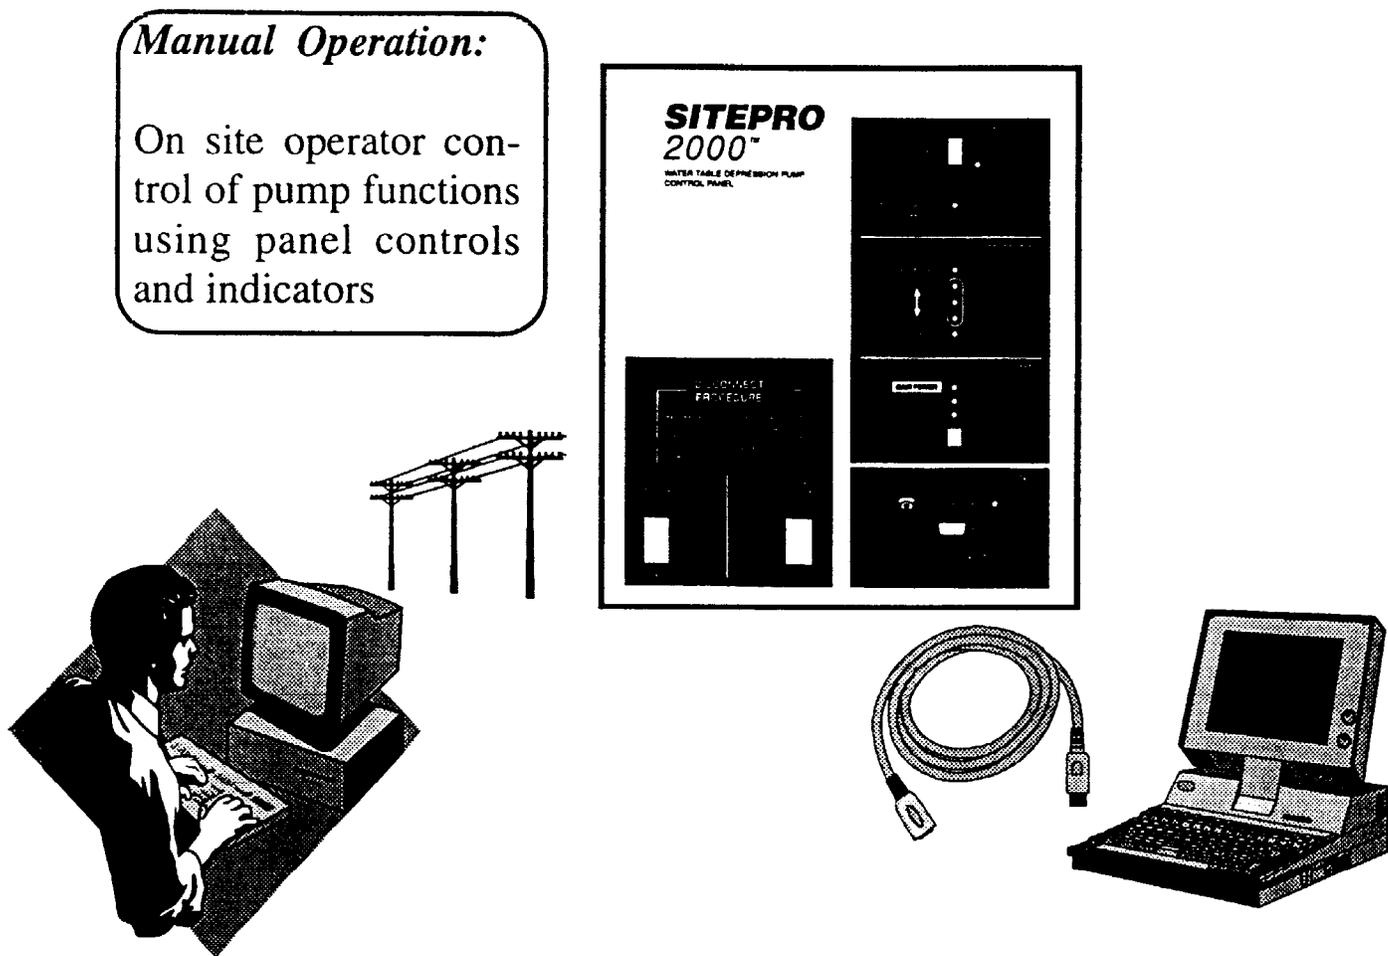

Figure 2
The ORS SITEPRO™ 2000 can be operated in any of the three modes shown in figure 2 and described briefly on the following pages.
2. Refer to figure 2 and position the panel so that the access door will open at least 12-1/2" without obstruction.
The ORS SITEPRO™ panel enclosure is equipped with access ports to facilitate wiring. See figure 2 (in Chapter 1) for locations of access ports. The port on the side of the enclosure is for all ***intrinsically safe*** wiring. All other wiring, including incoming power and pump connections must be routed through the access port in the bottom of the enclosure.